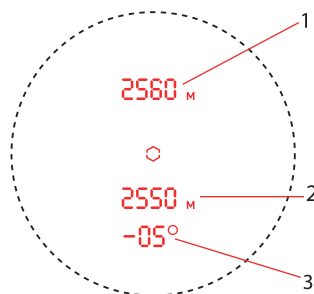

Figure 2
Press and hold Mode button (7) to get into horizontal distance measurement mode. Aim the device at your intended target and press Power/measure button (6). In this mode, you can measure the horizontal distance to the target. The angle [3], straight line distance to the target [1], and the horizontal distance to the target [2] will be displayed (Fig. 2). Press the Power/measure button (6) in order to take a single measurement. Press and hold the Power/measure button (6) for continuous measurement.